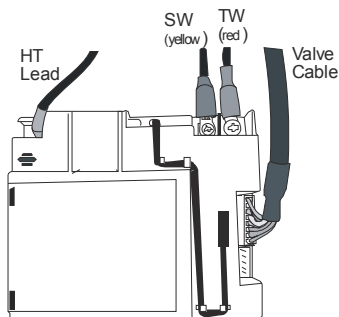

Figure 57
2. Gently pull out the HT lead and the valve cable from the receiver (see **Figure 57**).